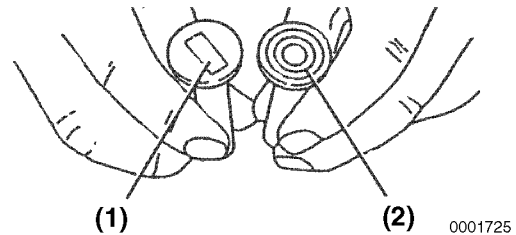

Figure 6-62
1. Inspect the tappet contact surfaces for abnormal wear (**Figure 6-62, (1)**). Normal wear will be even as shown in (**Figure 6-62, (2)**). Slight surface defects can be corrected using an oilstone.